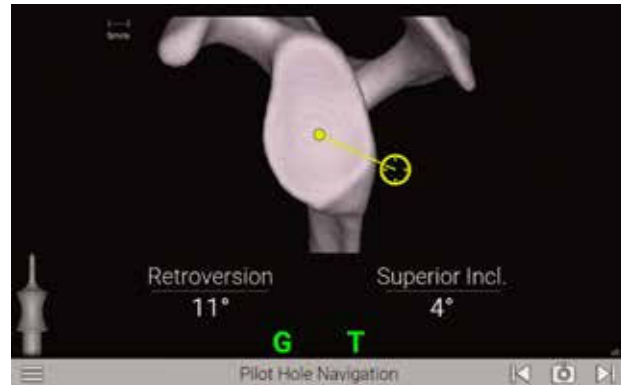

Figure 53a
Follow the on-screen guidance to place the components according to the plan (Figures 53a and 53b). Both the pilot hole and k-wire insertion screens are guided in a similar fashion with real-time feedback on the position of the Driver.
- For positioning of the Drill, the tip of the Drill is indicated by a yellow dot (Figures 53a and 53b).
- The planned position is indicated by a blue dot (Figure 53a).